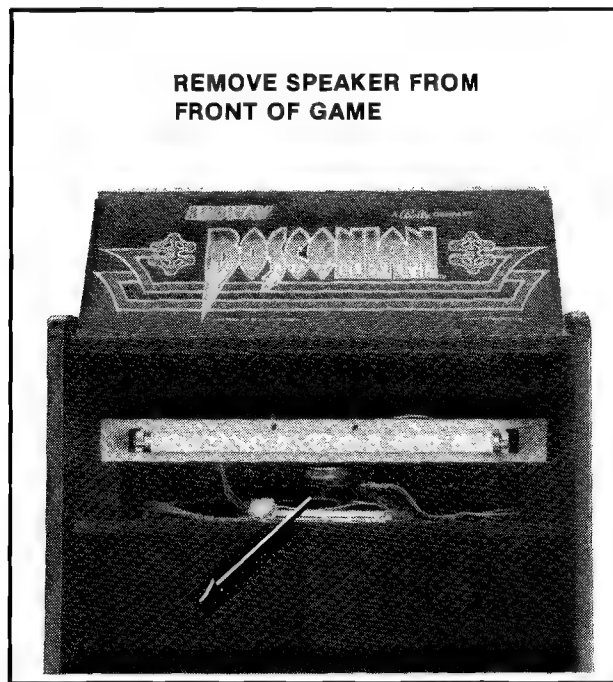

Figure 24 Replacing speaker — Upright game
- Replacing the speaker. See Figure 24.